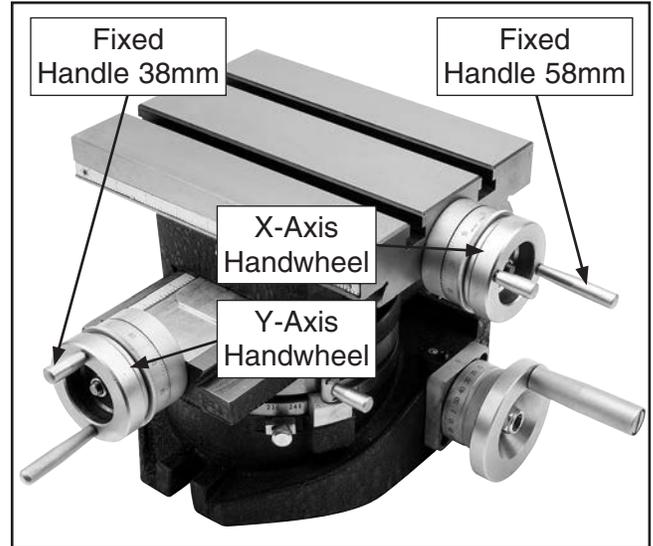

Figure 4. Fixed handles installed on X- and Y-axis handwheels.
2. Thread (1) fixed handle 38mm and (1) fixed handle 58mm into X-axis and Y-axis handwheels (see **Figure 4**). Hand tighten.